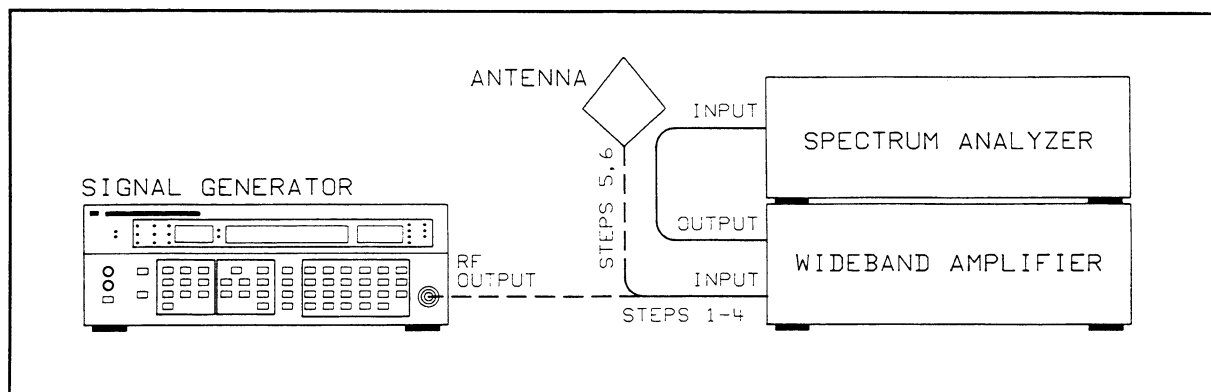

Figure 4-17. Output Leakage Test Setup
1. Connect equipment as shown in Figure 4-17, for the signal path shown as 1-4 below.
5. Connect the one-inch loop antenna to the analyzer through the amplifier as shown in Figure 4-17, for the signal path shown as 5.6. Hold the end of the loop antenna cylinder in contact with the front surfaces of the Signal Generator. All signals and noise should be below the reference graticule line (i.e., below -107 dBm).